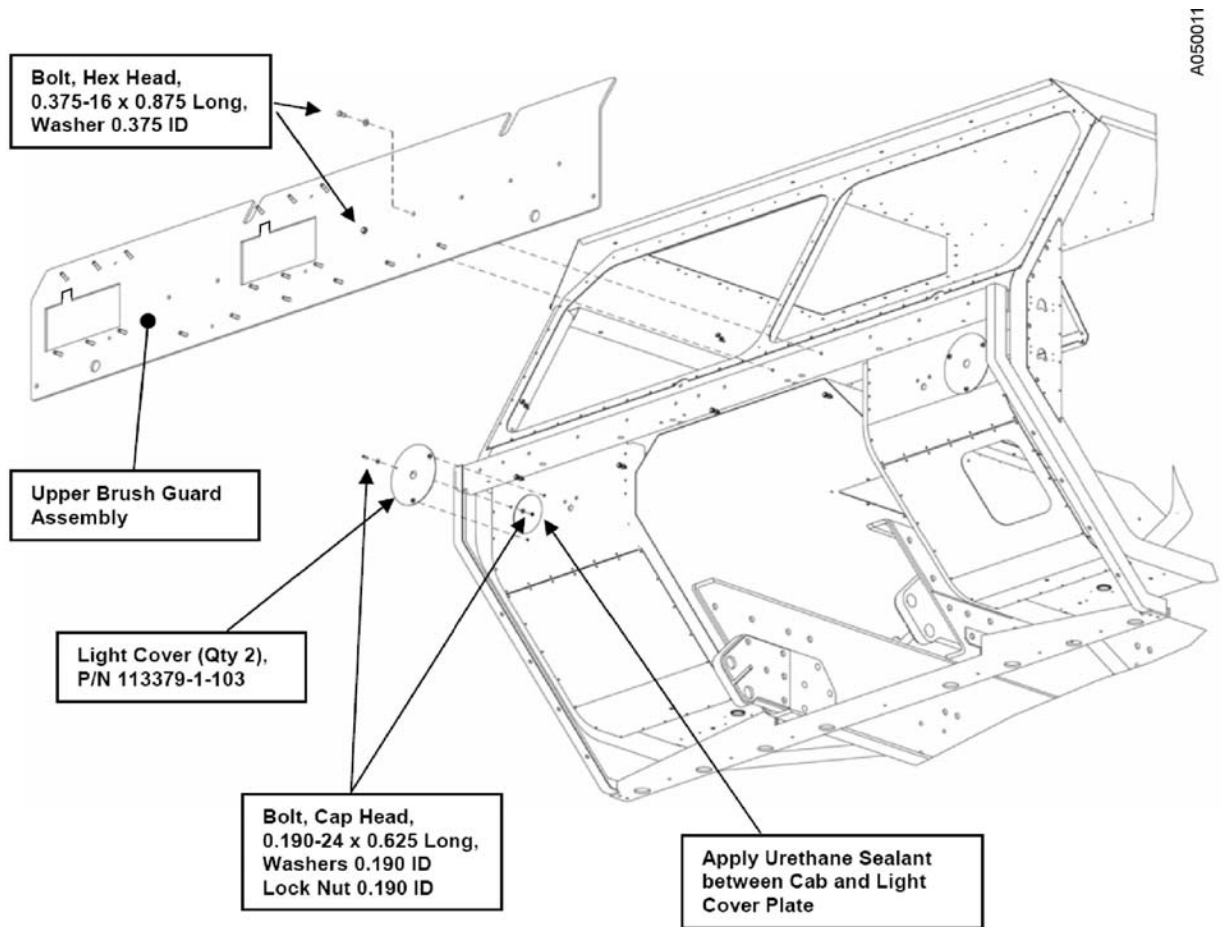

**Figure 47. Lower Brush Guard and Winch Cover.**
- b) Install the six Stud Plates to the Lower Brush Guard (P/N 113337-1-103) using the hardware shown in Figure 47.
- c) Install the Blackout Light Bracket (P/N 113355-1-103) using the hardware shown in Figure 47.
- d) Install the Brush Guard Spacer (P/N 113376-1-103) using the hardware shown in Figure 47.
- e) Install the two Grab Handles (31-8-BLK) to the Winch Cover Panel (P/N 113373-1-103) using the hardware shown in Figure 47.